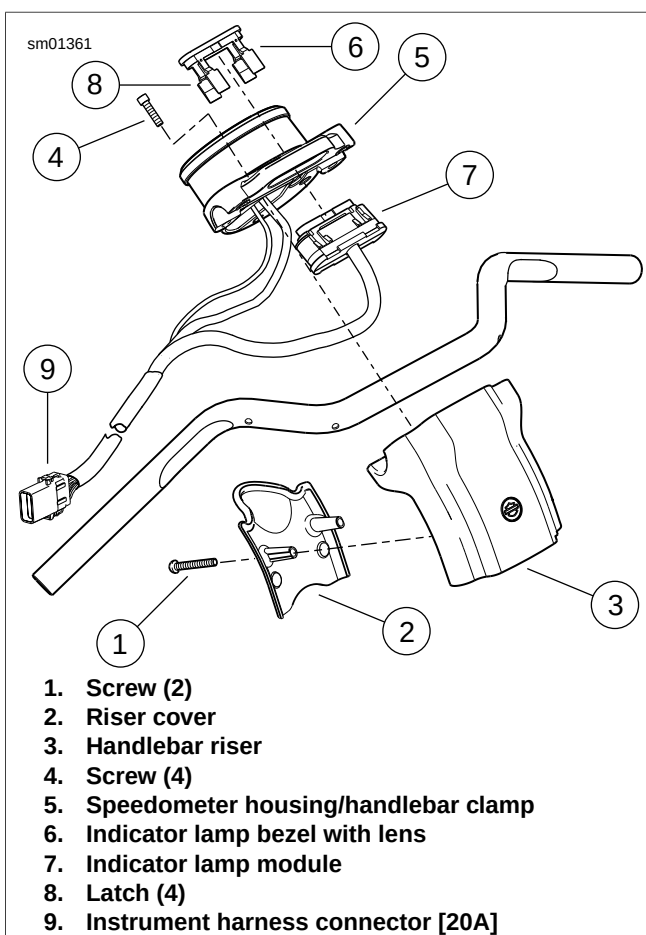

Figure 6-60. Indicator Lamps: XL 883C/XL 1200C
1. See Figure 6-60. Remove two screws (1) and riser cover (2) from behind handlebar riser (3).
2. Remove four screws (4) securing speedometer housing/handlebar clamp (5) to handlebar riser.
3. Carefully bend back four latches (8) on indicator lamp bezel (6) and remove indicator lamp module (7).
11. See Figure 6-60. Install indicator lamp module (7) into back of speedometer housing/handlebar clamp (5). Secure with four latches (8) on indicator lamp bezel (6).
12. Install speedometer housing/handlebar clamp onto handlebar riser (3) and secure with four screws (4):
13. Install riser cover (2) behind handlebar riser and secure with two screws (1). Make certain that handlebar control harnesses are not pinched between handlebar riser and riser cover. Tighten screws to 8-12 **in-lbs** (0.9-1.4 Nm).